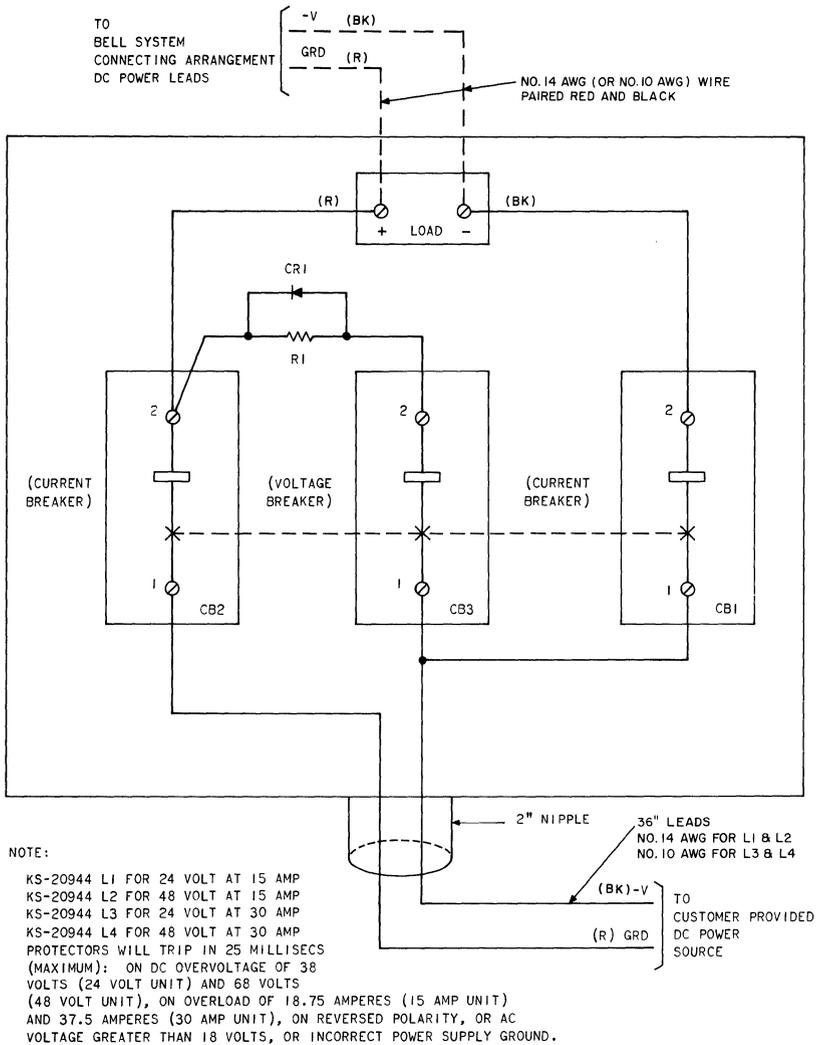

Fig. 18—Schematic—KS-20944 Protector
## KS-20944 Protector (Fig. 18)
**3.25** Set circuit breaker switch lever to OFF and connect as shown in Fig. 18 following local wiring instructions. The customer must connect his power supply to the red (GRD) and black (-V) wires extending from the unit.
**E. KS-20944 Protector (Fig. 18)**
**6.08** For connection information using the KS-20944 protector, refer to Fig. 18. For connections to multiple installations, refer to Section 463-300-109.